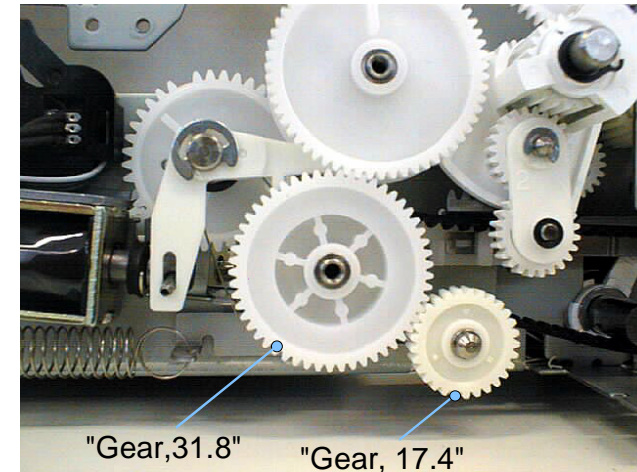

Figure 4-109. Installing "Gear, 31.8" and "Gear, 17.4"
29. Insert "Gear, 31.8" into the same axis, which "Combination Gear, 18.144, 24" is installed, and insert "Gear, 17.4" into an axis located at right next side. (Refer to Figure 4-109)